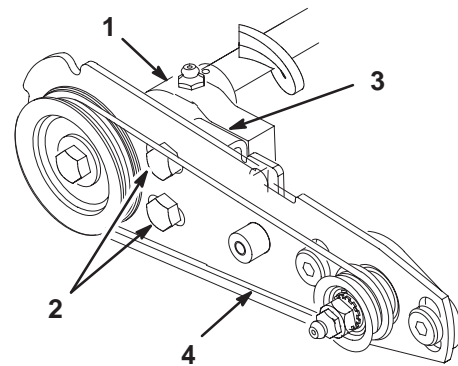

Figure 16
11. Install the drive belt (Fig. 16) and adjust the belt tension as follows:
12. Adjust the axial movement of the brush shaft (Fig. 16) as follows: